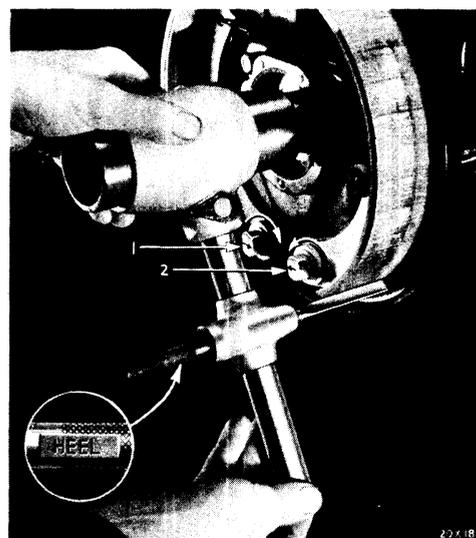

Fig. 22—Checking Heel Adjustment
- (5) Swing finger of brake gauge over "heel" of brake shoe and turn anchor bolts until lining at that point just contacts gauge finger, as shown in Figure 22.